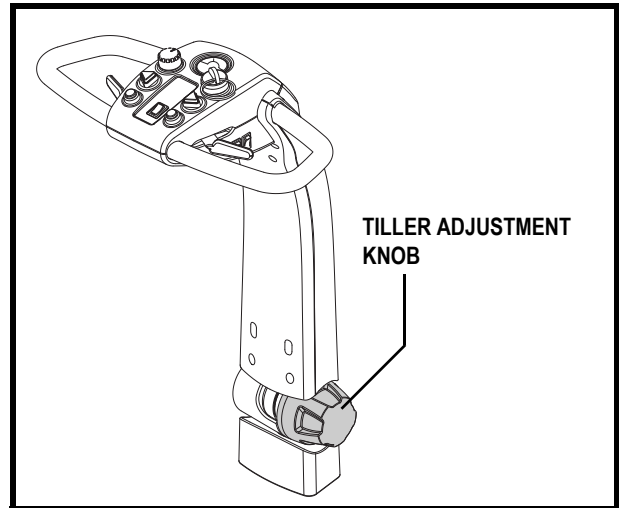

Figure 14. Tiller Angle Adjustment
1. While supporting the tiller, turn the tiller adjustment knob anticlockwise to loosen the tiller. See figure 14.